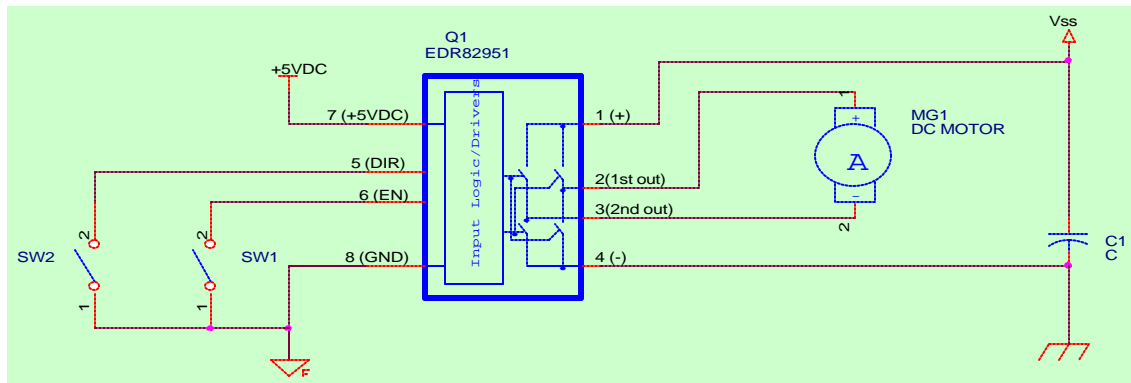

Figure 5. Application when motions of the motor controlled with two SPST switches
- III: Do not switch the inputs (EN/DR) before the V_{cc}/V_{ss} reaches its rated value (as shown on the Figure 5).